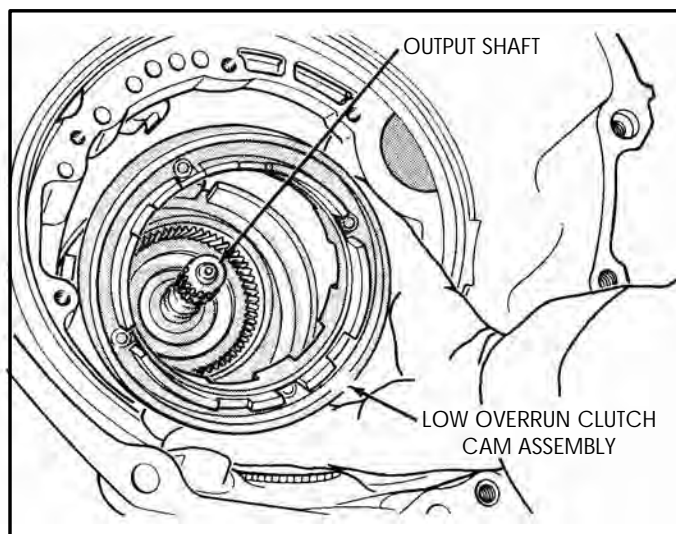

Figure 56
35. Remove the overrun clutch cam assembly from transaxle, as shown in Figure 56.